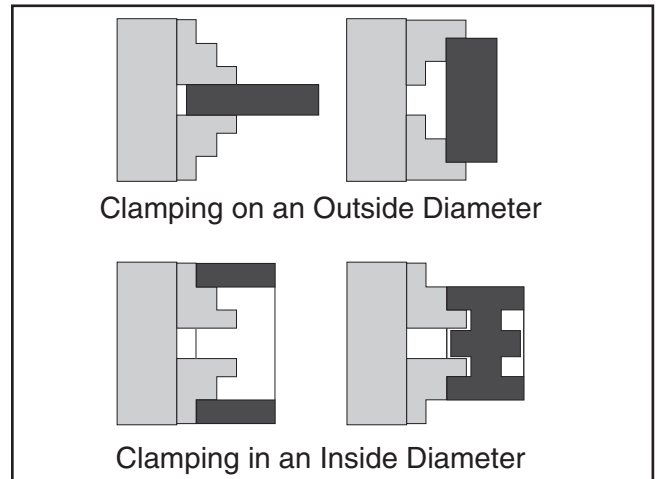

Figure 25. Loading a workpiece.
The three-jaw chuck included with this lathe is a scrolling-type chuck, which means all three jaws tighten at the same time when the chuck key is turned. As a result of this scrolling action, the jaws center the workpiece within 0.002"-0.003". Also, the jaws are reversible to accommodate different workpieces, as shown in **Figure 25**.
1. Use the chuck key to open or close the jaws as necessary and position the workpiece in one of the four configurations shown in **Figure 25**.